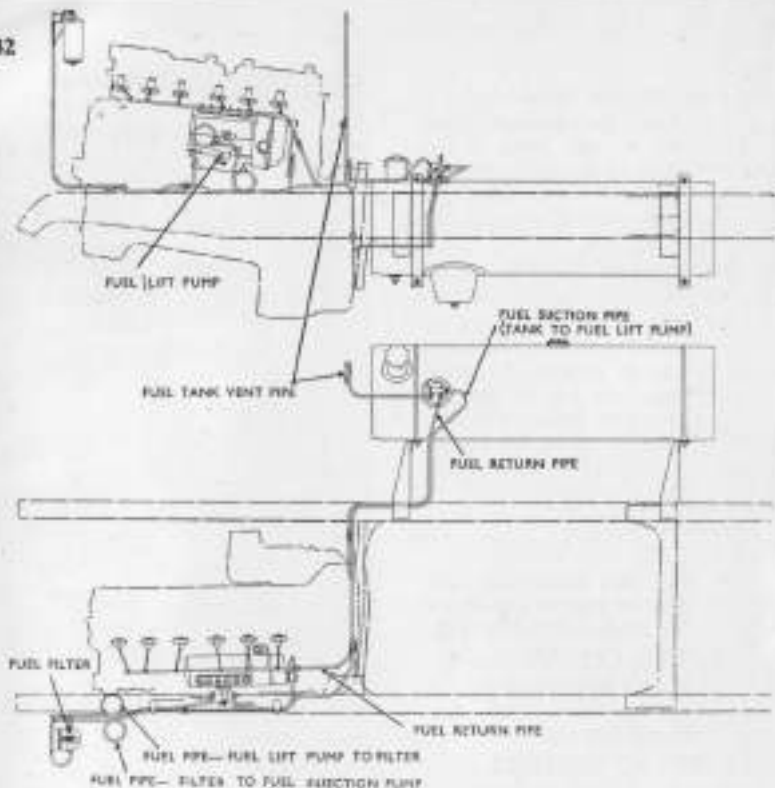

Fig. 18. Arrangement of Fuel System.
- (iii) Union nuts on fuel feed pipes (see Fig. 18).